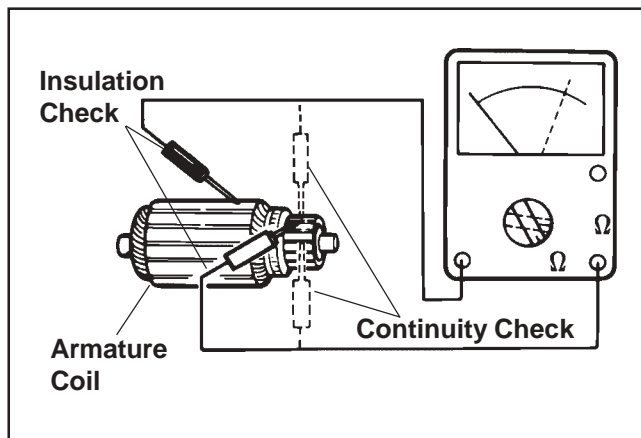

Figure 8-58. Checking Armature.
- Use an ohmmeter set to the Rx1 scale. Touch the probes between two different segments of the commutator, and check for continuity. See Figure 8-58. Test all the segments. Continuity must exist between all or the armature is bad.
- Check for continuity between the armature coil segments and the commutator segments. See Figure 8-58. There should be no continuity. If continuity exists between any two, the armature is bad.